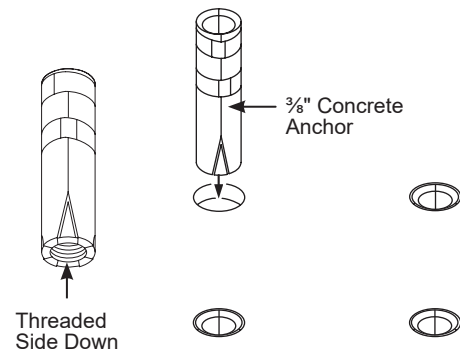

Fig. 3
4. Insert one anchor into each drilled hole (Figure 3). The threaded end of the anchor must be inserted into the hole first. Use a hammer to tap the anchor into place, if needed. Ensure that the anchors are flush with the concrete floor.